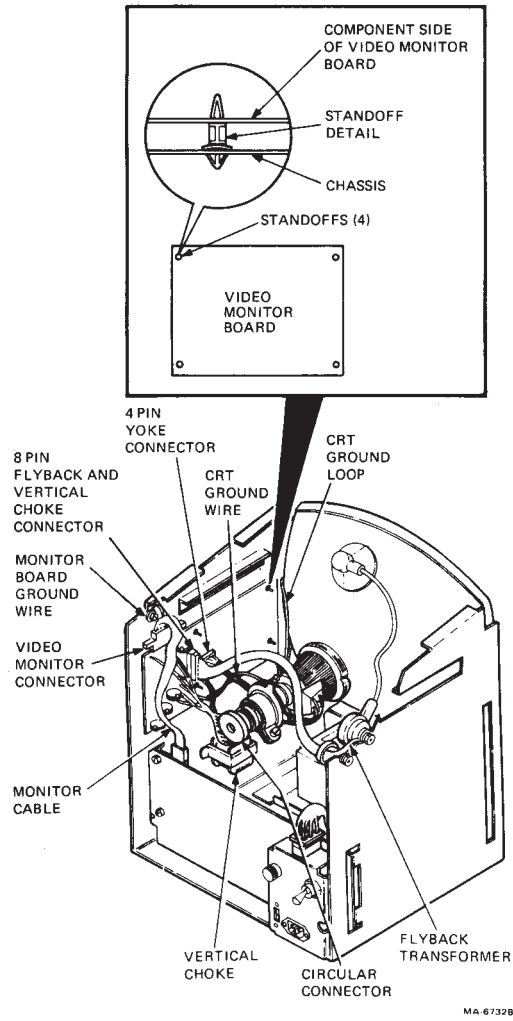

Figure 2-14 Video Monitor Board Connections
Refer to Figure 2-14 for the following steps.
8. Release the four standoffs by pressing in the standoff locking tabs and pulling the board out. (See Figure 2-14 insert.)
2. Disconnect the 8-pin flyback transformer and vertical choke connector from the video monitor board (Figure 2-14).
**This procedure exposes you to the CRT anode which may contain a stored high voltage. All grounds must be intact or the CRT will not discharge (Figure 2-14). These grounds are**
6. Remove the two nuts holding the flyback transformer to the monitor chassis (Figure 2-14). Carefully remove the flyback transformer with the nylon insulation washers.